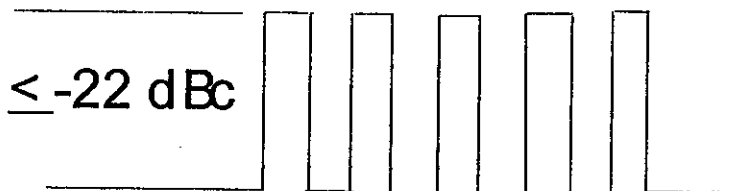

Figure 3. Modulation Depth
- 4.2.5 Set the TRACE HOLD off and SWEEP TIME to AUTO. Set RESOLUTION BANDWIDTH to 3 MHz. Set the span frequency for 3 MHz. Set the sweep for SINGLE SWEEP. Use MARKER PEAK SEARCH and MARKER DELTA to perform the modulation depth check. This is accomplished by moving the DELTA MARKER to a modulation "valley" to determine the modulation "depth" from its peak. The "valley" must be less than -22 dBc (i.e. this equates to >85% modulation). See Figure 3. (It is typically below -35dBc.) Record results on the test data sheet.